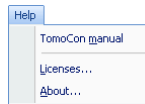

Figure 41 – Help menu
- **Help** – display the application version, install licenses or browse the electronic version of the user's manual (see Figure 41).